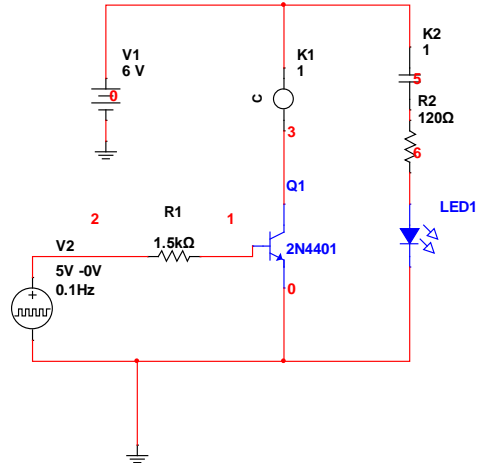

Fig. 4: Schematic for 2N4401 transistor switch and relay coil.
- Step 3a: Simulate the circuit in Fig. 4 which has no inductive spike damping diode